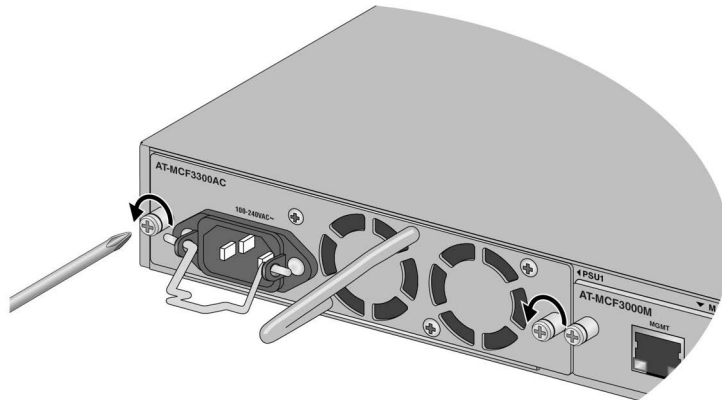

Figure 73. Loosening the Two Captive Screws on the MCF3300AC Power Supply
4. Using a cross-head screwdriver, loosen the two captive screws on the power supply. Refer to Figure 73.